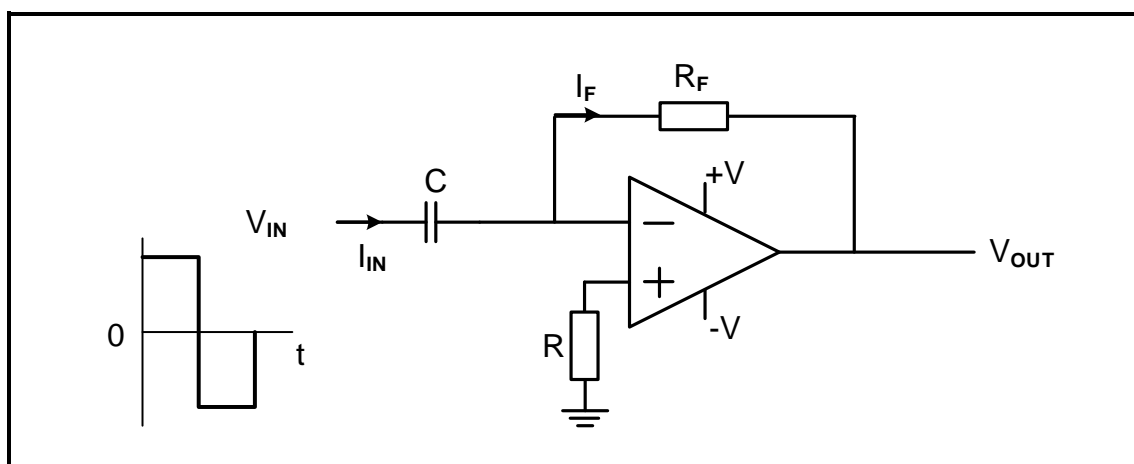

FIGURE 2.8: DIFFERENTIATOR
2.8 Refer to FIGURE 2.8 below and answer the questions that follow.